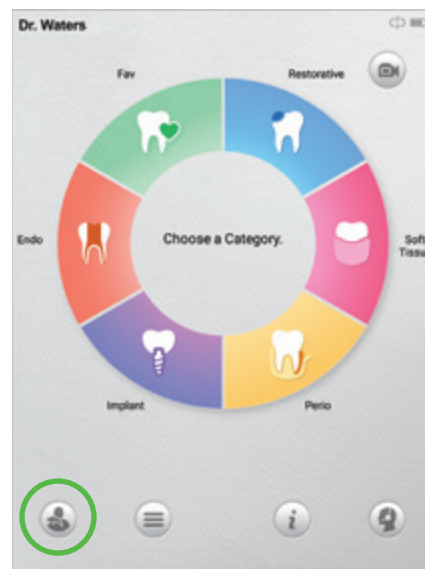

Figure 12
1. Press the logout icon at the bottom of the Home screen. [Figure 12]
4. Turn the Keyswitch counterclockwise to the OFF (O) position.
5. Turn the power switch to the OFF (O) position.